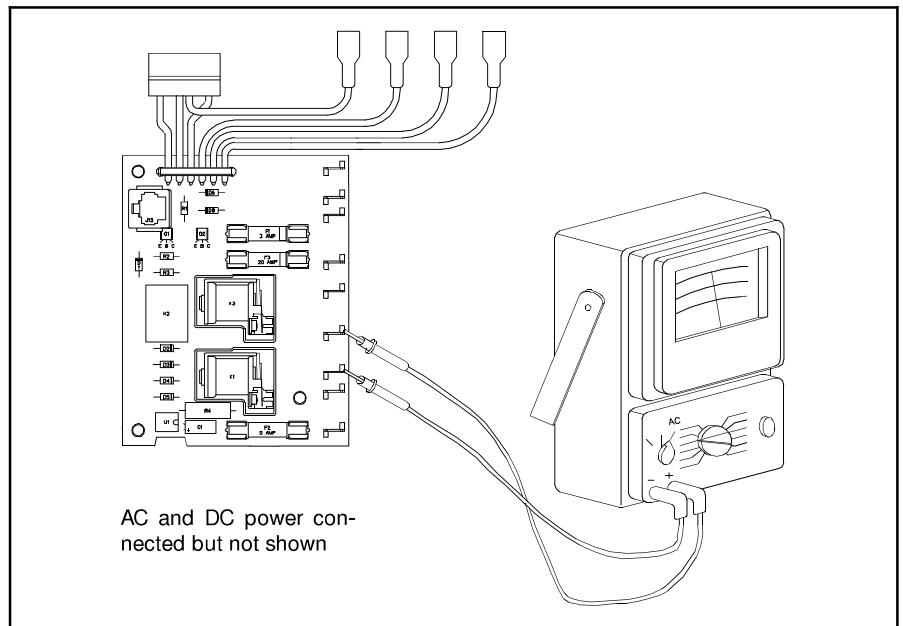

Figure 11.32 120 Volt AC Heater Output Check
22. Set the volt-ohm-meter to measure 120 volts AC and check the AC heater terminals J6 and J7 as shown in Figure 11.32. If you do not have 120 volts, replace the Power Supply.